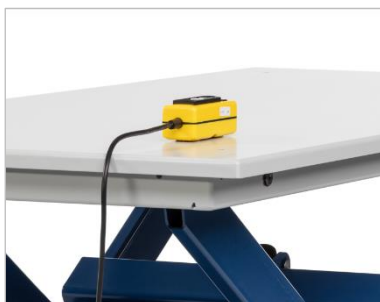

Figure 7: Push button unit
- The height of the table top is adjusted using the removable push-button unit (⇒ Figure 7) which can be magnetically attached to the support frame.